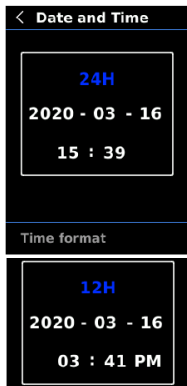

Fig. 16
3. Press the **SET** button followed by the $\wedge$ and $\vee$ buttons to adjust the selected parameter (Fig. 16).